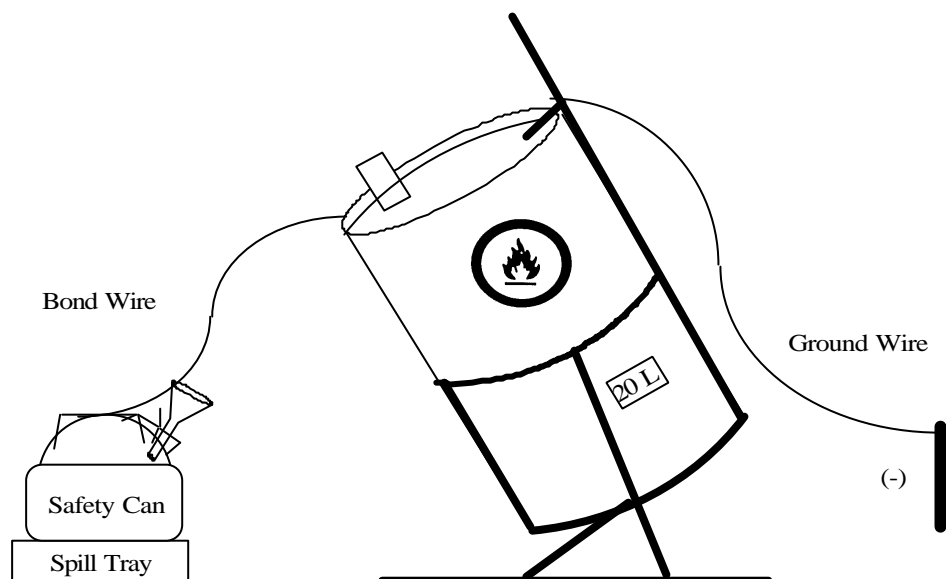

Figure 1
- Ensure cans are properly grounded (see Fig. 1). Grounding wire must be securely attached to 20 L can one end and the other attached to the wall mounted metal bus strip. Verify screw clamps are tight before proceeding.
- Attach bonding wire from 20 L can to safety can. (see Fig. 1)